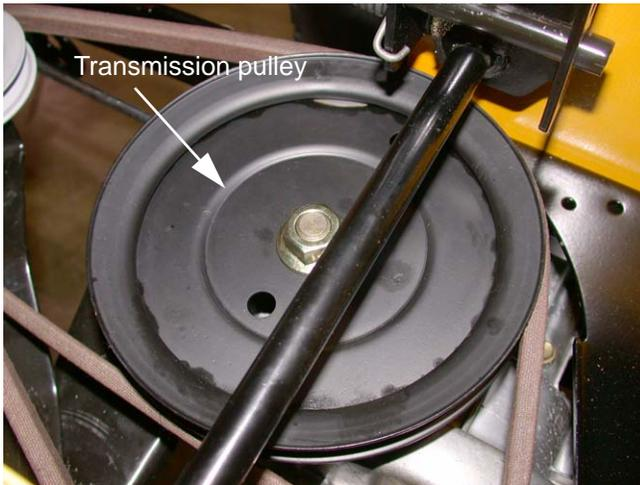

Figure 21.4
21.4. Using a 7/8 socket and extension, remove the nut securing the transmission pulley to the transmission. See Figure 21.4.